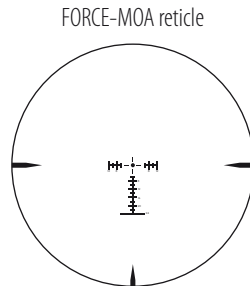

Fig. 3-4
(2) Focusing
- ① Look through the eyepiece with your eye positioned about 4 in. (10 cm) away from the eyepiece to see the reticle (Fig. 3-4). Be sure your eye is positioned with proper alignment and with proper eye relief, otherwise the view will “black out.”
- ② Point the objective end of the scope at the sky (do NOT point it at the sun) or at a plain unpatterned wall.
- ③ Turn the eyepiece adjustment counter-clockwise and then turn it clockwise until the reticle appears sharp.